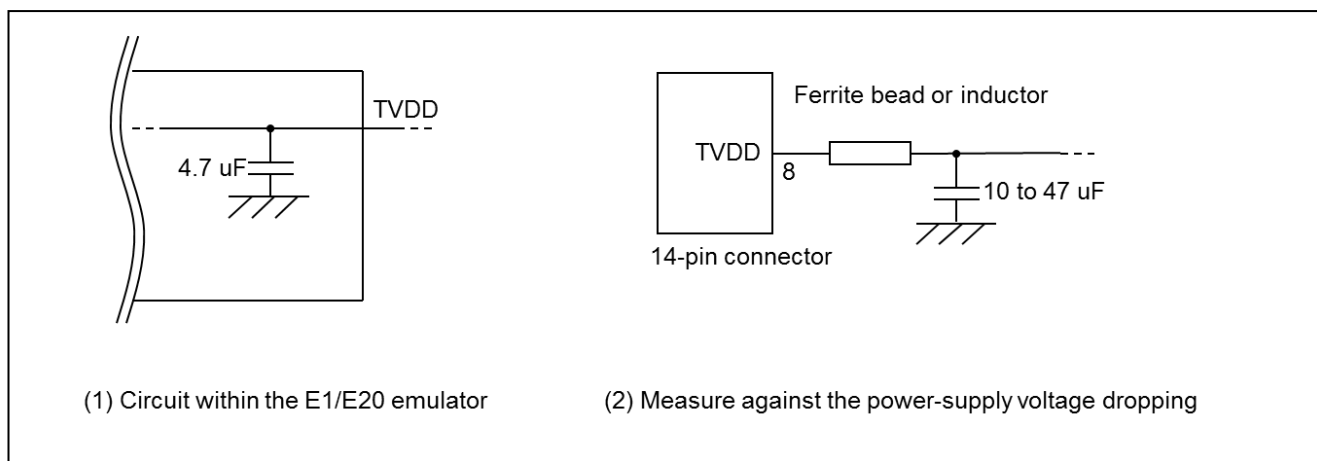

Figure 2-10 Circuit Configuration for Hot Plug-in
Pin 8 of the E1 emulator is connected to a 4.7- μ F capacitor as shown in (1) in Figure 2-10, so hot plug-in connection of the emulator may lead to a momentary drop in the power-supply voltage on the user system. This might cause the MCU to be reset.
As shown in (2) in Figure 2-10, this effect can be reduced by placing a ferrite bead (or inductor) and relatively large capacitor with low equivalent series resistance near the TVDD line of the connector for connection of the emulator. Note that this measure will not completely eliminate the voltage drop. Note that hot plug-in connection is only for use during debugging, and a separately sold hot plug-in adapter is necessary to use this function otherwise.